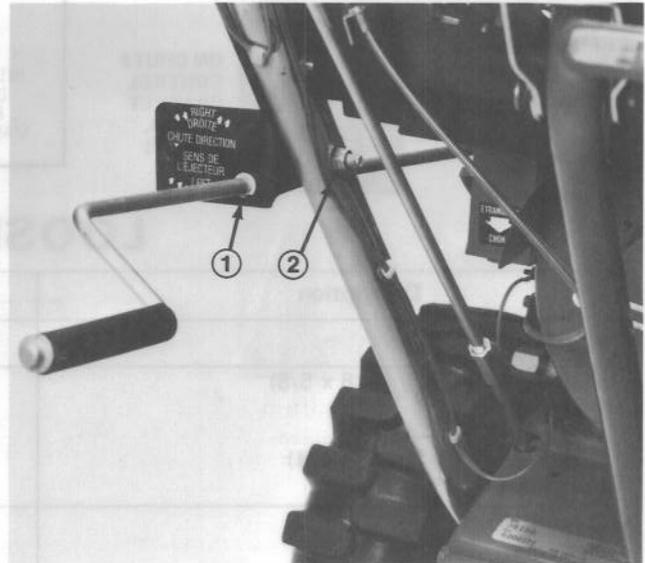
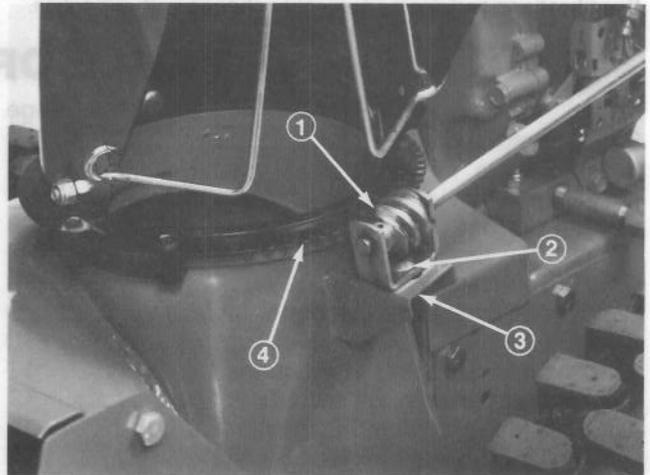

Figure 3
Figure 4
4. Install chute control bracket and rod against left side of handle with capscrew and locknut (Fig. 3), but do not tighten the locknut.
5. Apply no. 2 wheel bearing grease on worm gear (Fig. 4). Next, mount worm bracket and gear on top of mounting flange with carriage bolt, pyramidal washer and cone locknut (Fig. 4). Do not tighten locknut.
6. Push worm gear firmly against teeth in retaining ring; then tighten locknut (Fig. 4). Also tighten locknut holding chute control bracket against handle (Fig. 3). Check operation by rotating chute control. Repeat if necessary.